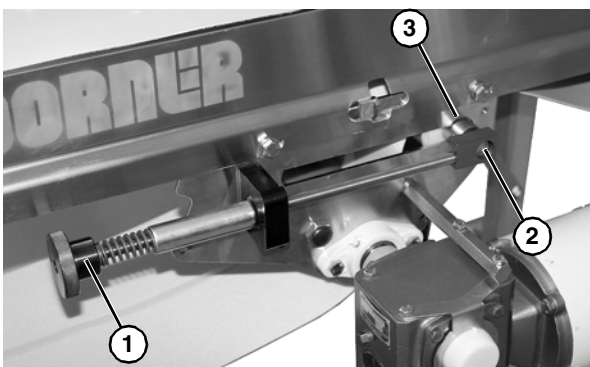

Figure 75
6. Loosen tension nut (**Figure 75, item 1**) on each side of center drive unit so that tensioner assembly shaft (**Figure 75, item 2**) aligns with hole (**Figure 75, item 3**).